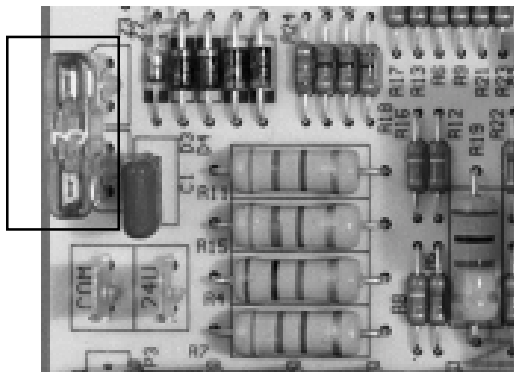

Figure 38.
- B. Low Voltage Fuse - an over-current, short circuit safety device designed to protect the control board in the event of a low voltage short or over-current. (See Figure 38.)